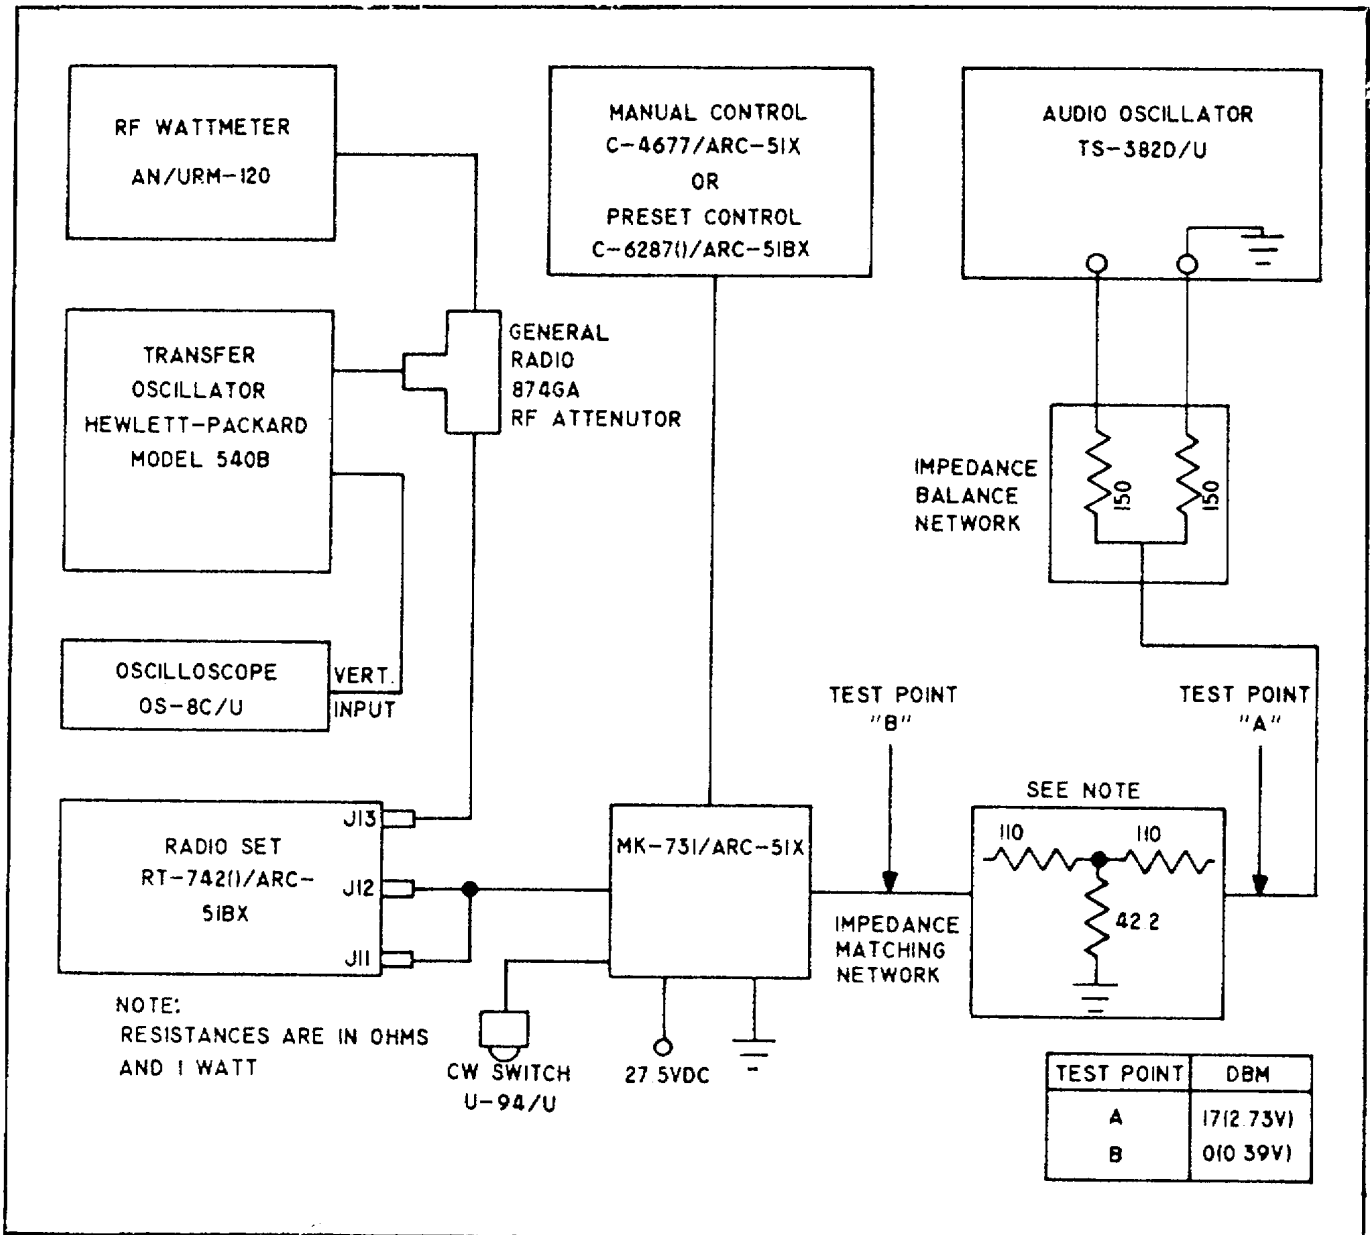

Figure B-19. Equipment and Test Units for Making Modulation Measurements.
- (a) Refer to figure B-19 and connect the test equipment as shown Set the function switch of the control unit to T/R+G position and allow the equipment to warm up for a least 5 minutes. Adjust the audio oscillator for an output of 1000 Hz and a signal level of 2.73 volts (17 DBM) at test point "A" as read on the VTVM. Connect the VTVM to test point "B".